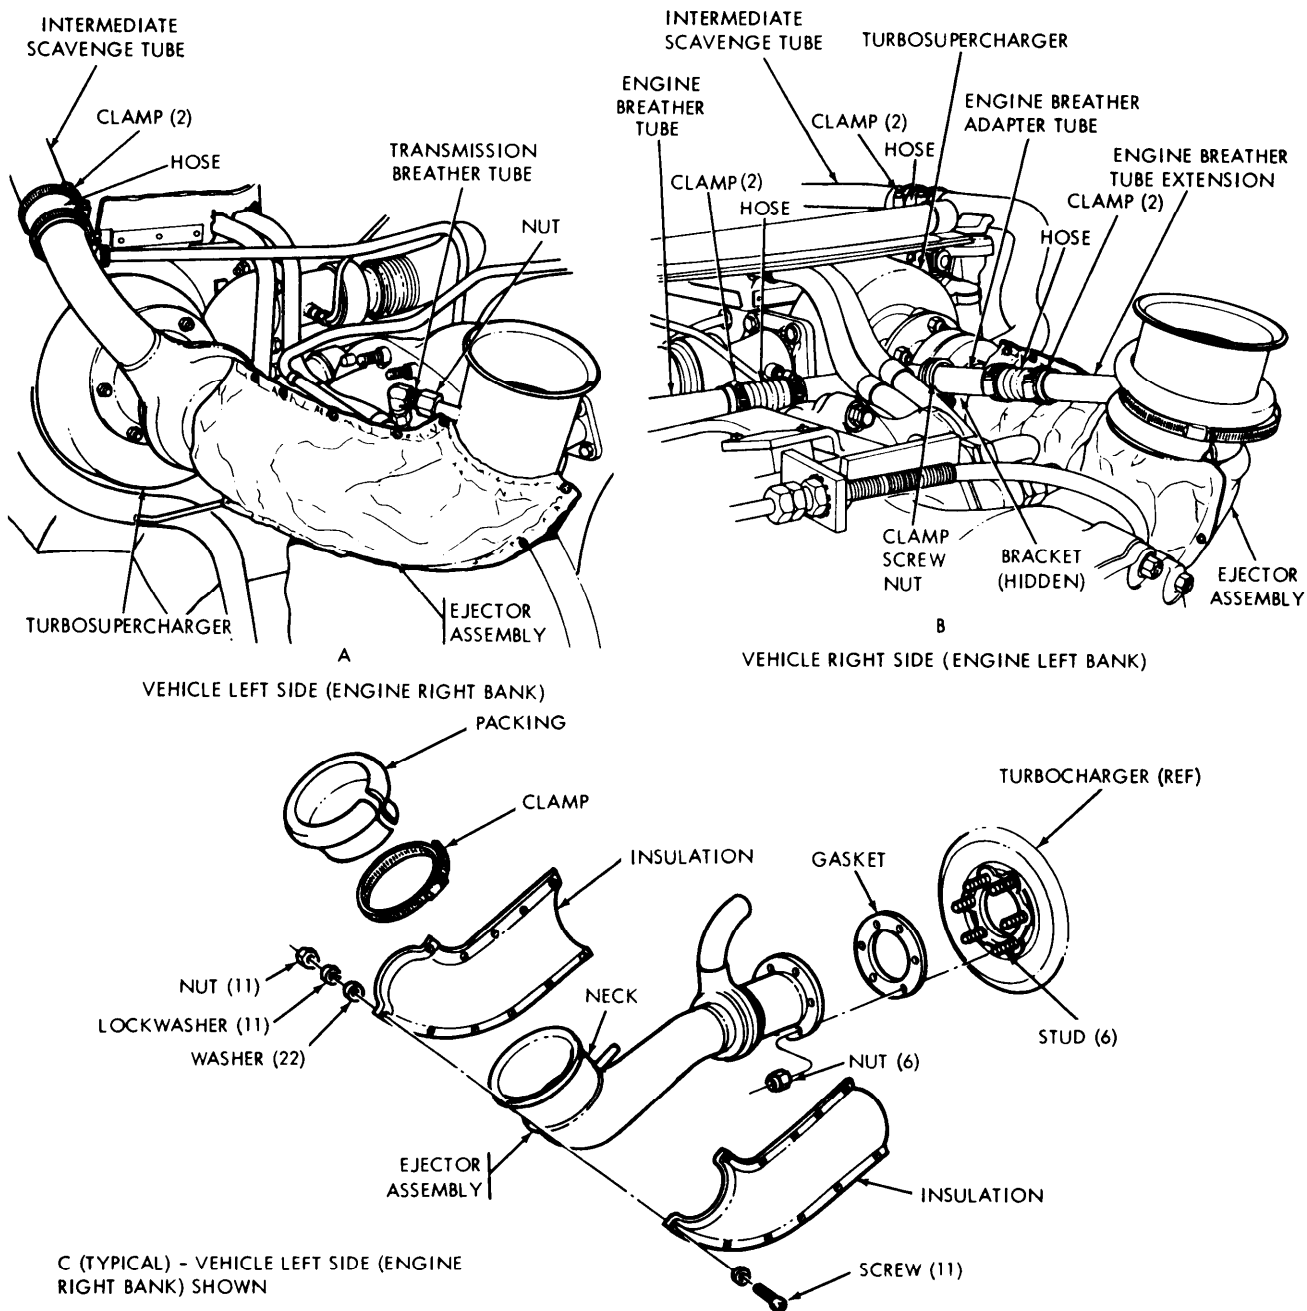

Figure 6-17. Exhaust ejector assemblies replacement.
*(2) Installation.*
- (a) Apply silicone compound (item 19, appendix C) inside red hose.
*d. Exhaust Ejector Assemblies Replacement (Fig. 6-17).**(1) Removal.*